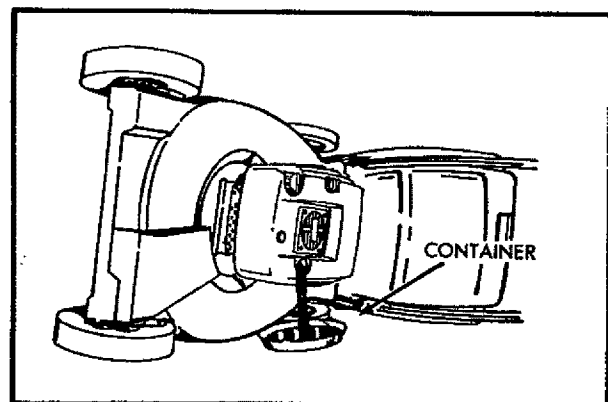

FIG. 30
2. Tip mower on its side as shown in Fig. 30 and drain oil into suitable container. Rock mower back and forth to remove any oil trapped inside of engine.